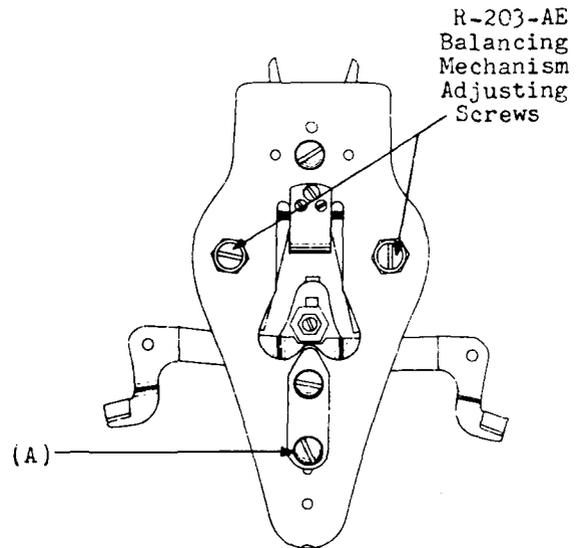
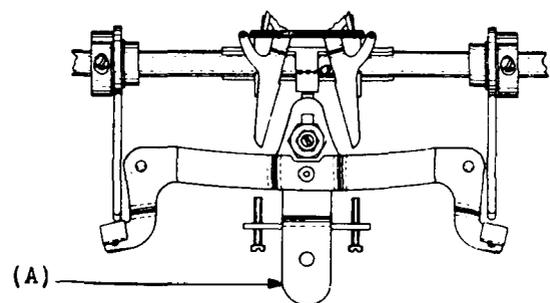

Fig. 20
Fig. 21
Remove balancing mechanism as described in paragraph 3.05. Remove screw (A) (Fig. 20) using the 3-1/2 inch cabinet screwdriver and remove detail (A) (Fig. 21). Remove the clutch arm. Remount the new clutch arm. Remount detail (A) and tighten screw (A). Remount the balancing mechanism as described in paragraph 3.06.